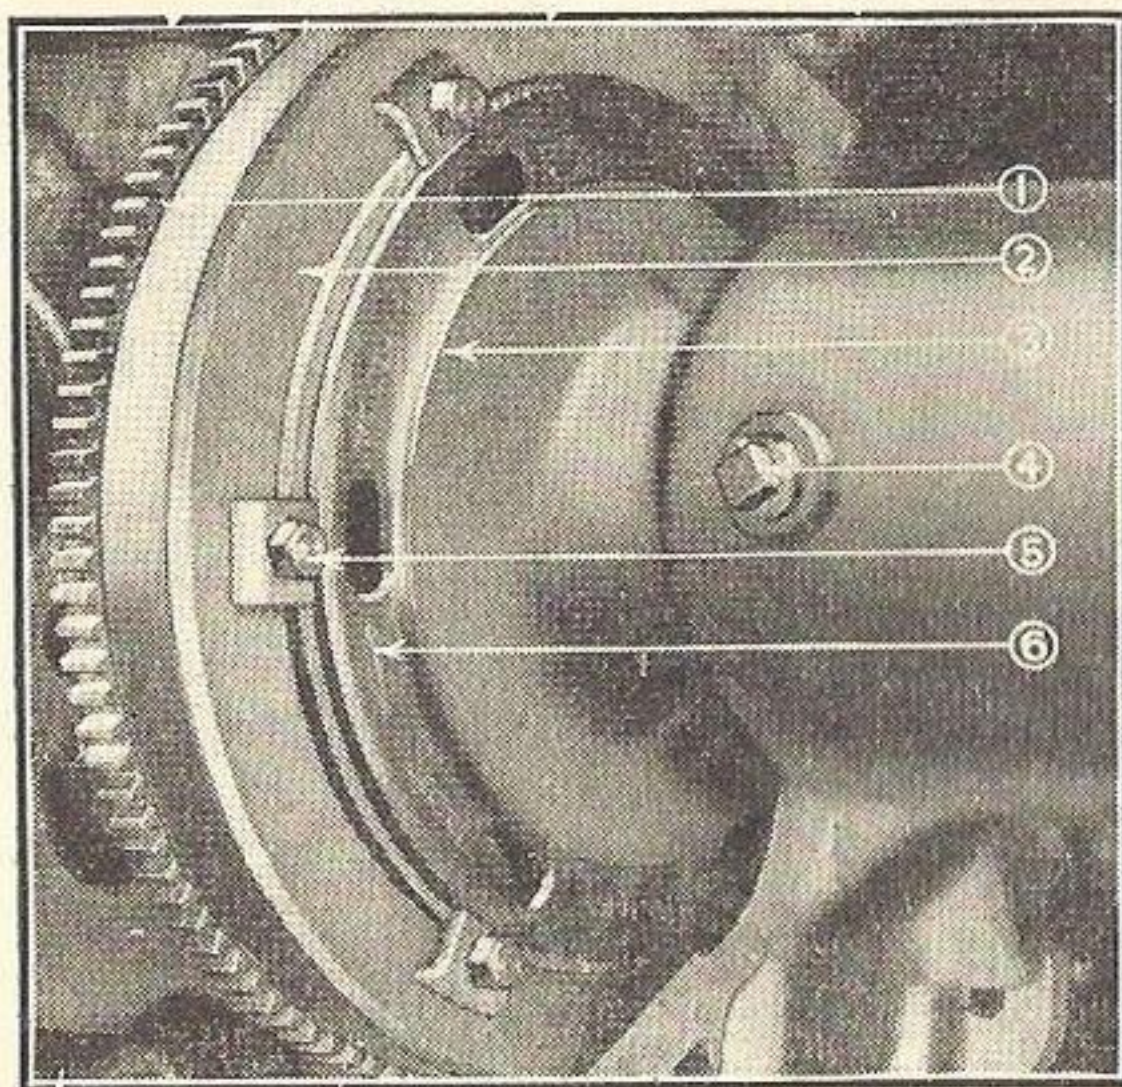

Fig. 31
1. Loosen all of the clutch cover screws No. 5, Fig. 31. The motor should be turned by the hand crank to bring all of them in reach.